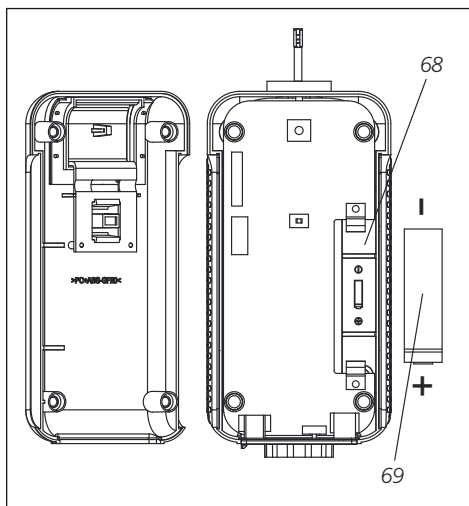

Fig. 16
5. Carefully pry the battery out of the battery compartment (68) with a small screw driver or something similar.
6. Click the new battery (69) (3018466) into place between the spring contacts. **Make sure the polarity is correct. The notch around the battery's circumference indicates its positive pole** (see Fig. 16).